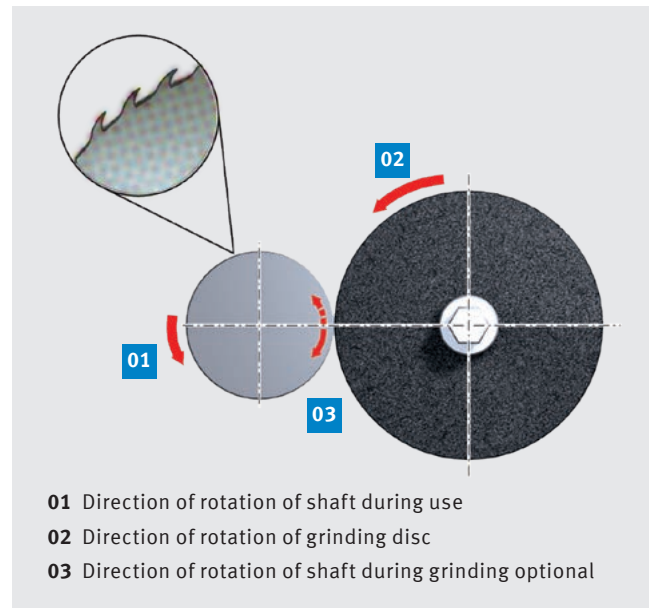

Fig. 44: Grinding a cast shaft
- Spheroidal graphite iron (GGG) has an open surface structure, and should therefore be ground to R_z 2 or better. Fig. 44 shows the direction of rotation of cast shafts in use. This should be the same as the direction of rotation of the grinding disc, as more wear will occur in the opposite direction.